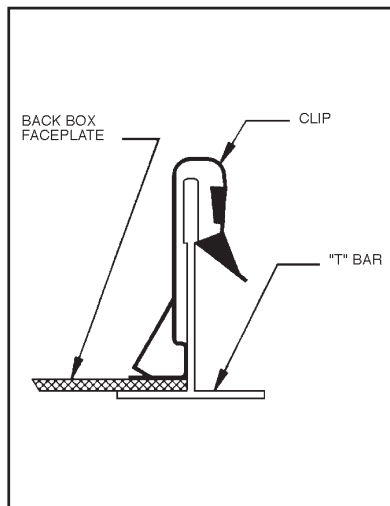

Figure 1. "T-Bar" Clip Installation
3. From an opening in a grid adjacent to the back box apply the four (4) clips supplied to the "T" bar to secure the back box to the grid (refer to Figure 1).